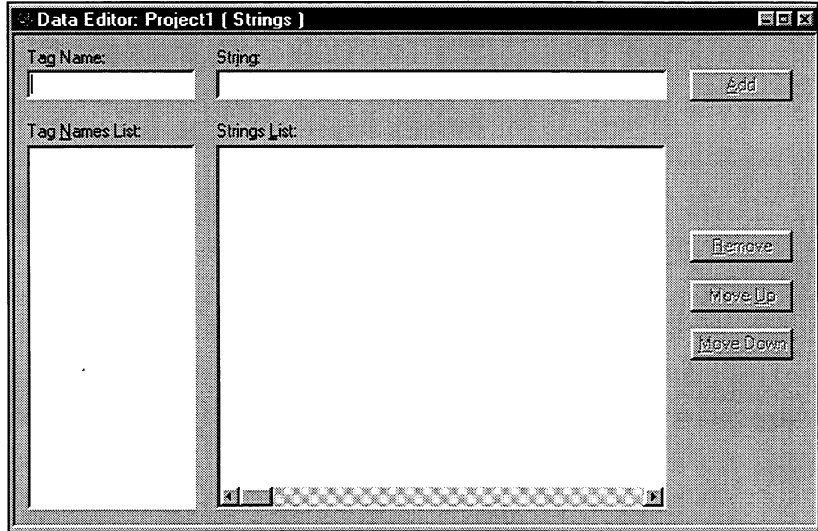

Figure 3-6. Strings Form
2. Double-click on the Strings entry in the list box to access the Strings form, as shown in Figure 3-6.